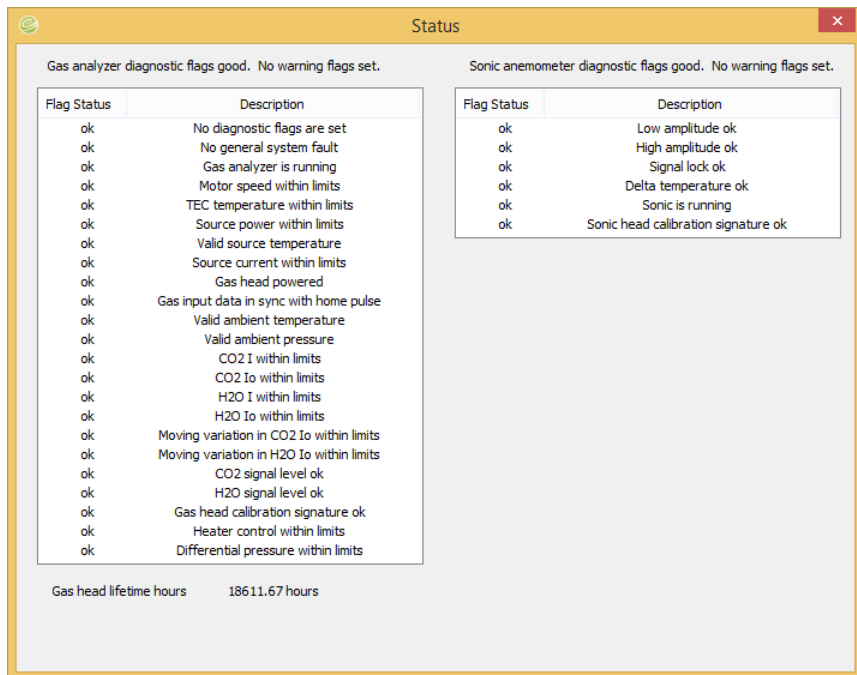

FIGURE 7-4. EComon Status window
- Troubleshooting and monitoring diagnostics using the Status window (see FIGURE 7-4).